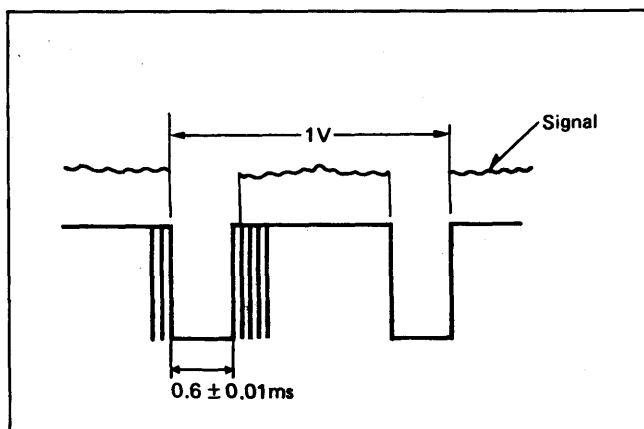

Fig. 45
- 9) Adjust PAL V. BLK Adj. VR (R558) so that the V. BLK width becomes 0.6ms ± 0.01ms as shown in Fig. 45.